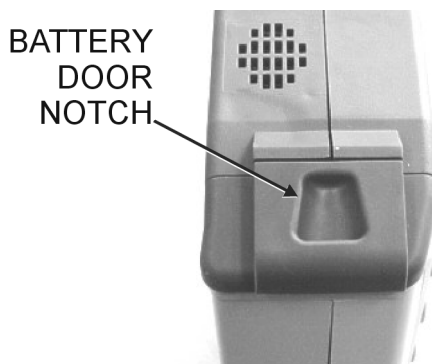

Figure 3-1. Battery Access Door Notch
1. With the MS2723B or MS2724B laying flat and face up on a stable surface, locate the battery access door, as illustrated in Figure 3-1.